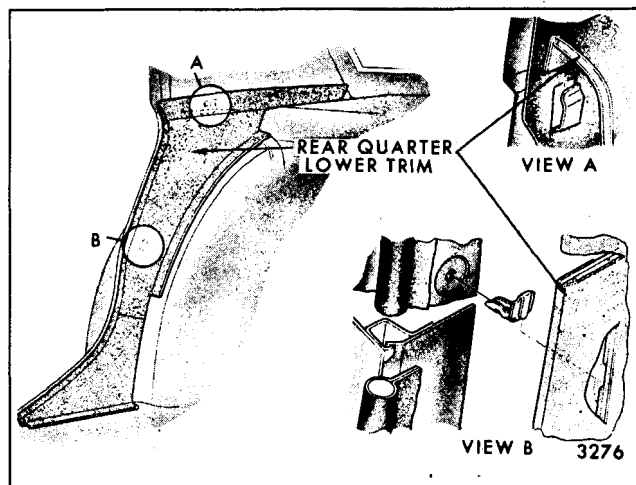

Fig. 13-24-Quarter Trim Assembly Attachment
3. On "C" styles, insert tool J-9886 or equivalent at each clip location and pry retaining clip from plastic retaining plugs (View "B" Fig. 13-24) and remove trim panel.